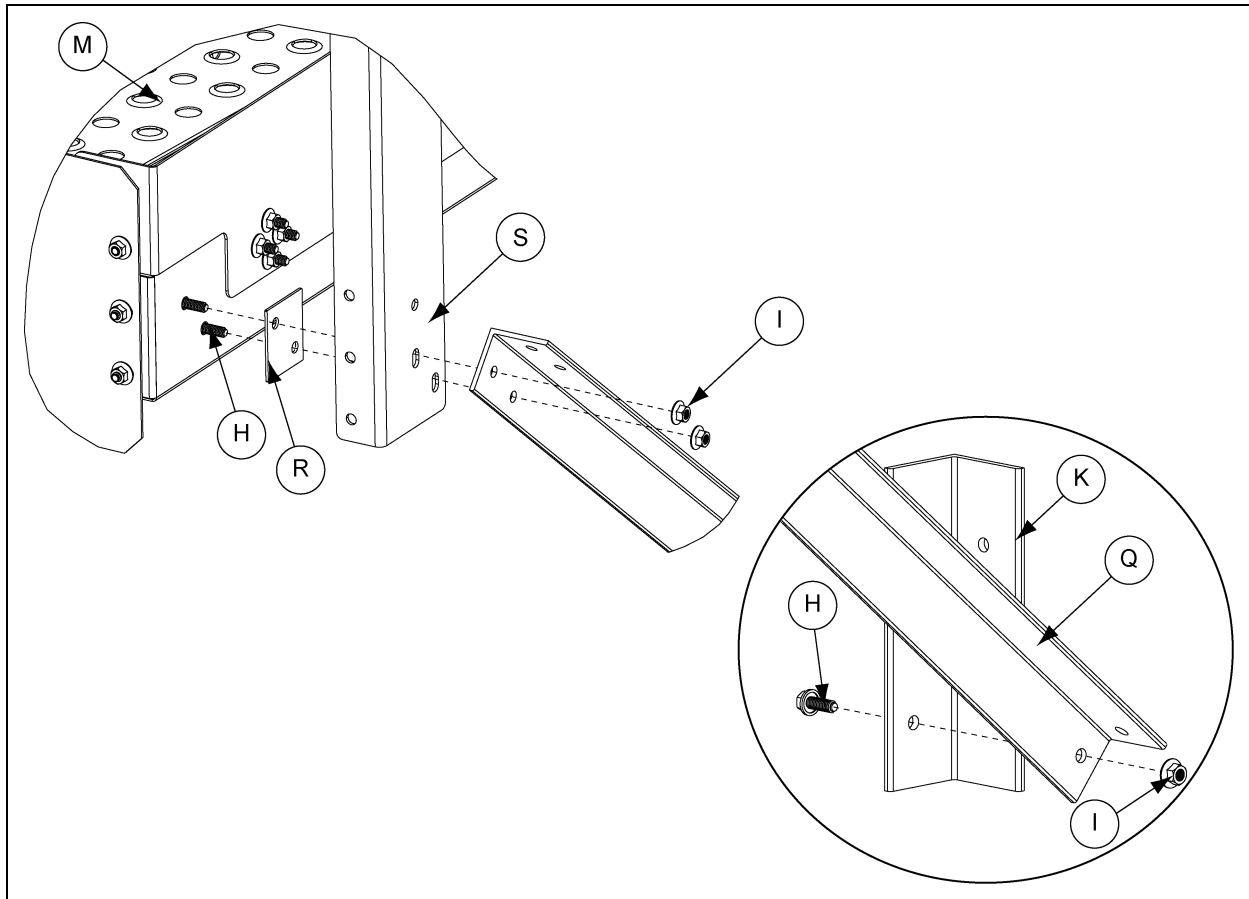

Figure 3F
5. Install the middle platform support (Q) to the wall clips (K) and a plank (M) using bolt (H) and nut (I).
6. Install the end platform supports to the wall clips (K), handrail posts (S), a shim (R) and the plank (M) using bolt (H) and nut (I).
7. Install the outer toe board to the planks (M). (See Figure 3F.)